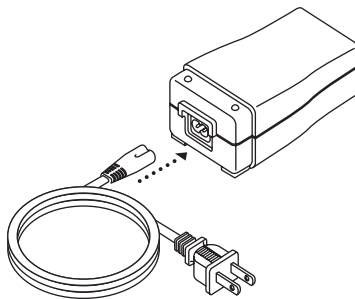

FIGURE 3–5 CONNECTING THE POWER CORD TO THE POWER SUPPLY
1. Plug the socket end of the AC power cord into the power supply, as shown in Figure 3–5.
3. Plug the power supply cord's connector into the power inlet on the back of the device, as shown in Figure 3–6.